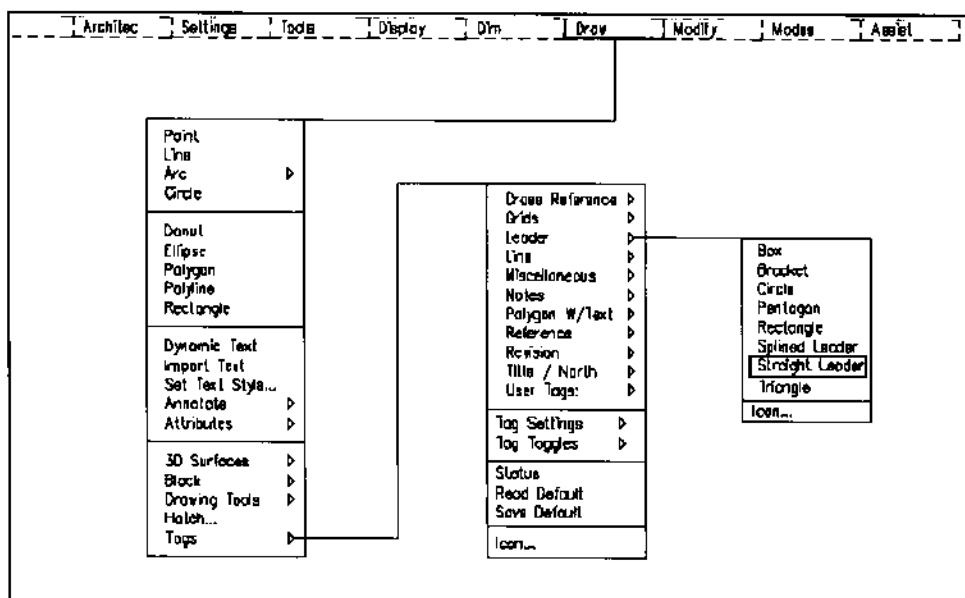
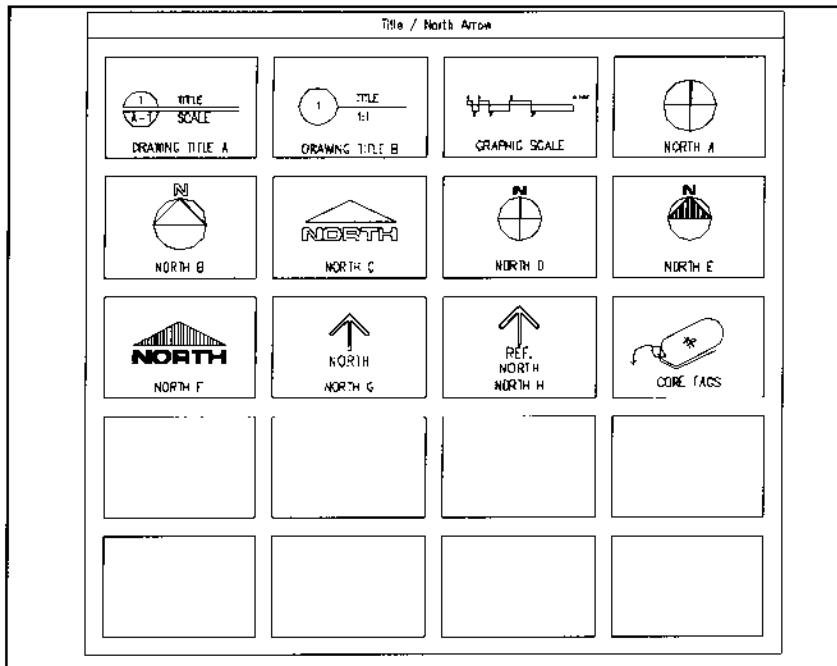

Figure 30.
Figure 31.
2. Select Title/North under Tags from the submenu shown in Figure 30, or the icon shown in Figure 31, then the North E icon.